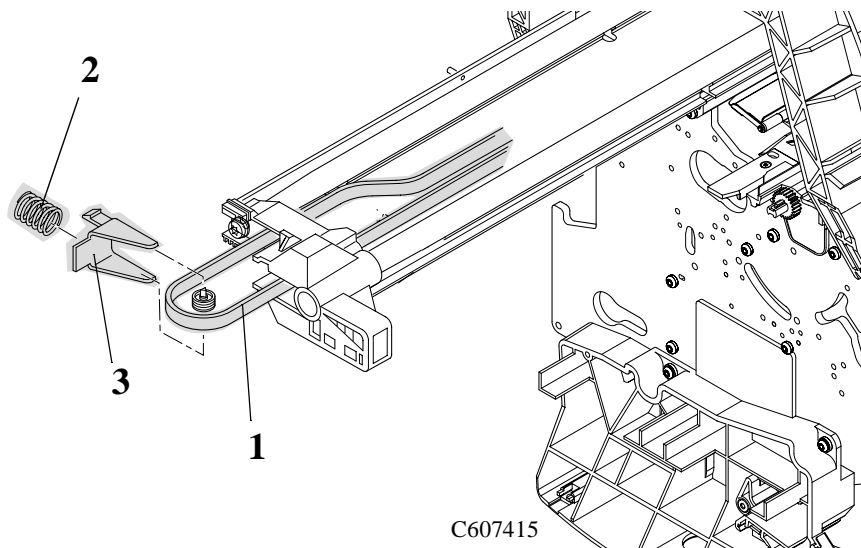
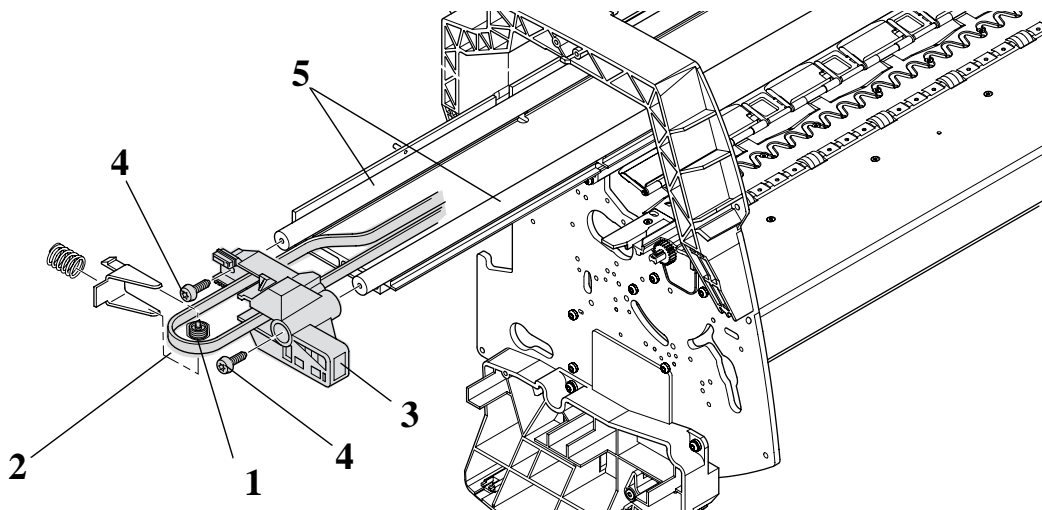

Figure 33: Tensioner Assembly
Figure 35: Tensioner Assembly
Refer to Figure 33 to Figure 35.
2. To release the tension on the belt (item 1) from the left hand side of the Printer, squeeze the spring (item 2) using the tensioner wedge clip (item 3) until you hear it click into place (refer to Figure 33).
NOTE For steps 4 to 6, refer to Figure 35.